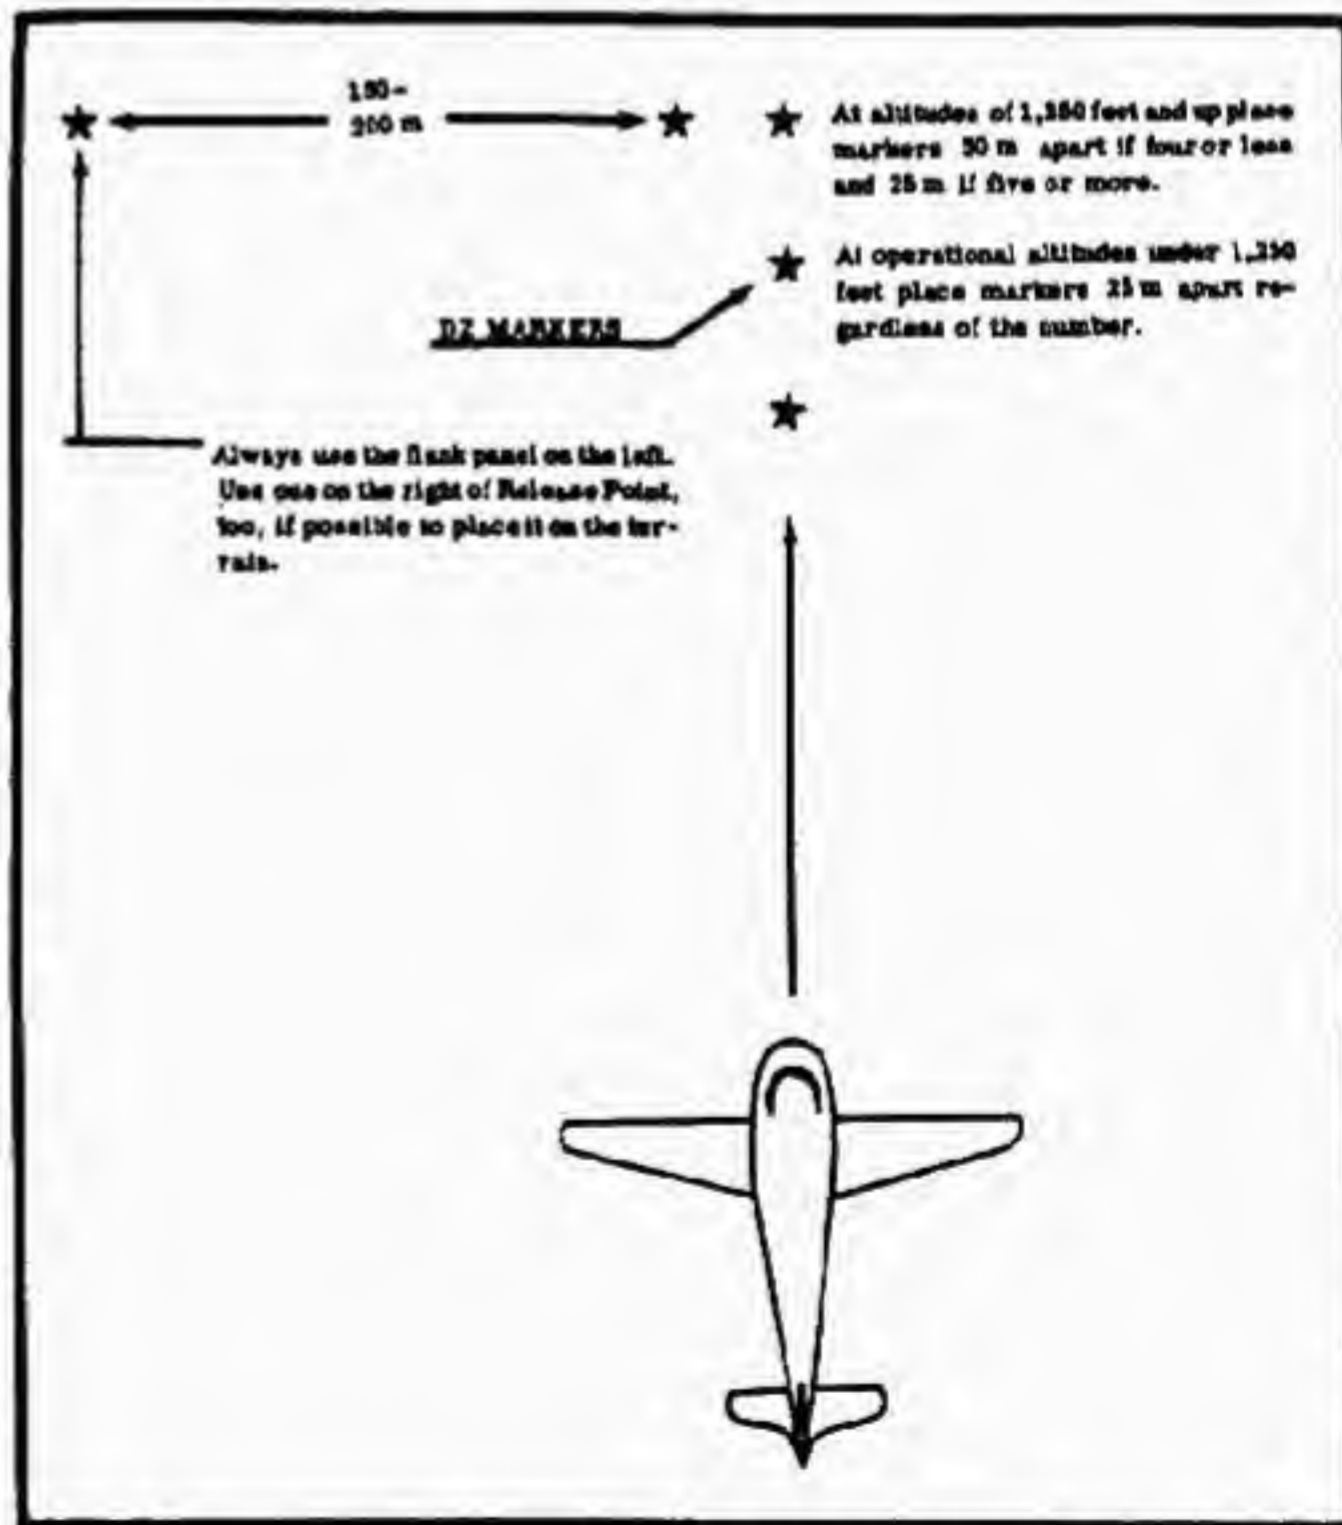

Figure 7. Methods of release point marking
1. Training jumps conducted at an absolute altitude of 1,250 feet (383 meters) require the use of a flank panel or light placed 200 meters to the left of the release point markings. The configuration of present cargo and troop carrying aircraft prevents the pilot from seeing the markings after approaching within approximately one (1) mile of the DZ while flying at 1,250 feet (383 meters) absolute altitude. From this point on, the pilot must depend on flying the proper track in order to pass over the release point. The flank marker serves to indicate when the aircraft is over the release point and the exact moment the drop should be executed. Operational drops executed at 600 feet (183 meters) absolute altitude do not require the flank panel because the pilot does not lose sight of the markings as he approaches the DZ. (See Figure 7)